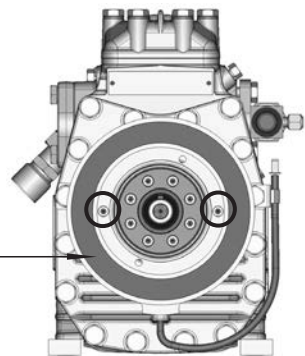

Fig. 8
- For the installation push the magnetic field on snugly and fasten with 2 cheese head screws $\text{M6} \times 16$ (see Fig. 8). Screw tightening torque = 15 Nm.